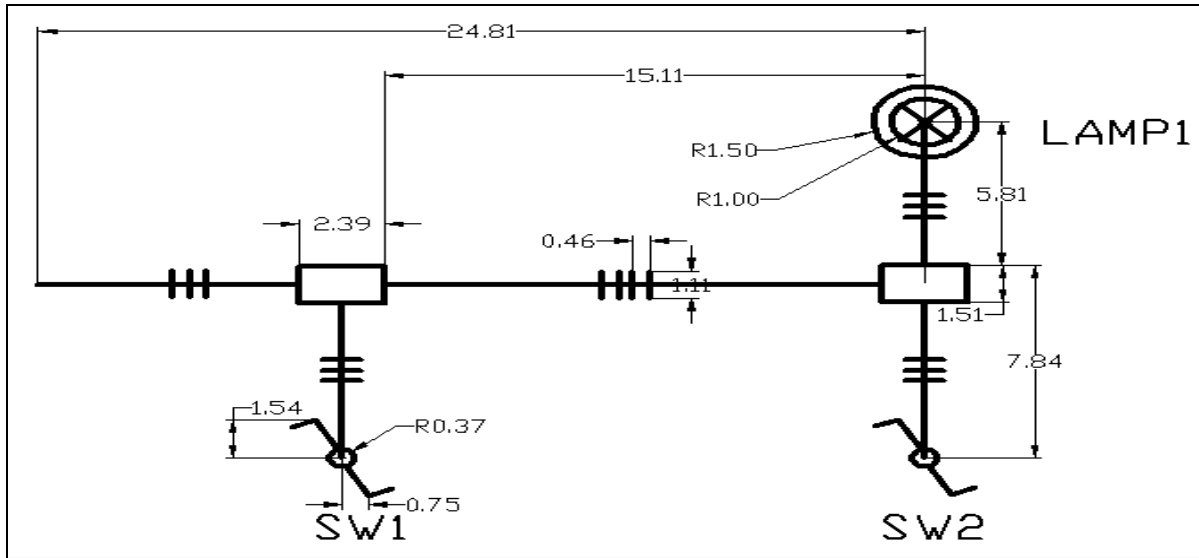

Figure 2.6 Current Flow Diagram of Lamp lighting circuit
4. In the same sheet draw the circuit in Figure 2.6, which is the Current Flow Diagram of the circuit.